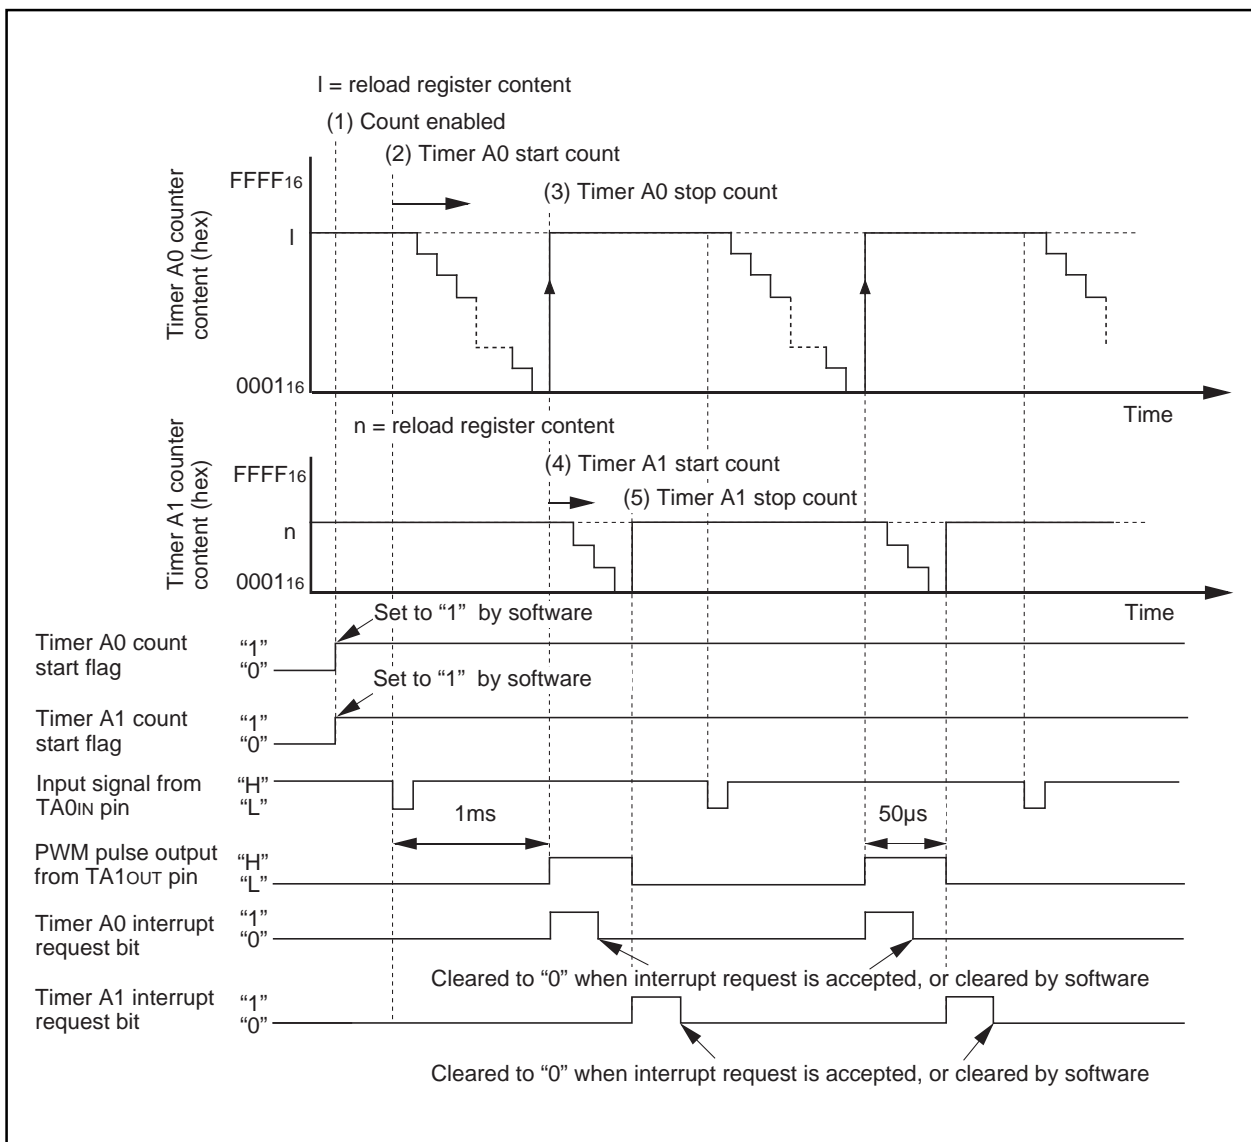
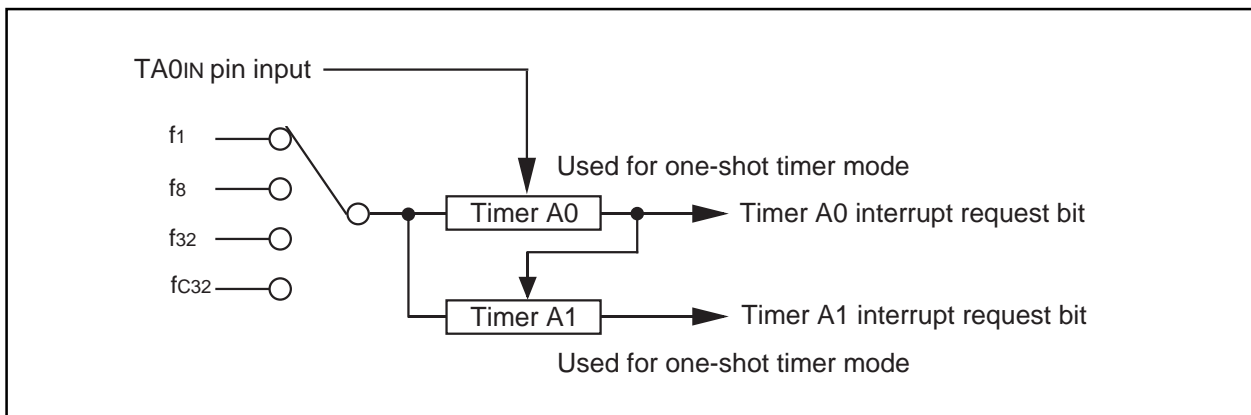

Figure 3.3.1. Operation timing of delayed one-shot output
Figure 3.3.2. Connection diagram of delayed one-shot output
**Overview** The following are steps of outputting a pulse only once after a specified elapse since an external trigger is input. Figure 3.3.1 shows the operation timing, Figure 3.3.2 shows the connection diagram, and Figures 3.3.3 and 3.3.4 show the set-up procedure.